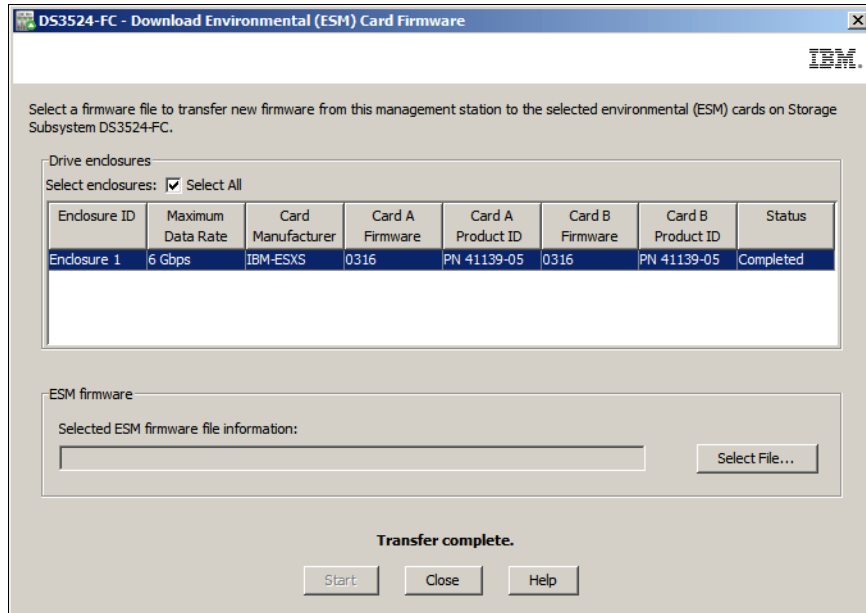

Figure 14-65 ESM firmware transfer completed
- The status will change to completed when the ESM firmware has been downloaded as shown in Figure 14-65 on page 372.